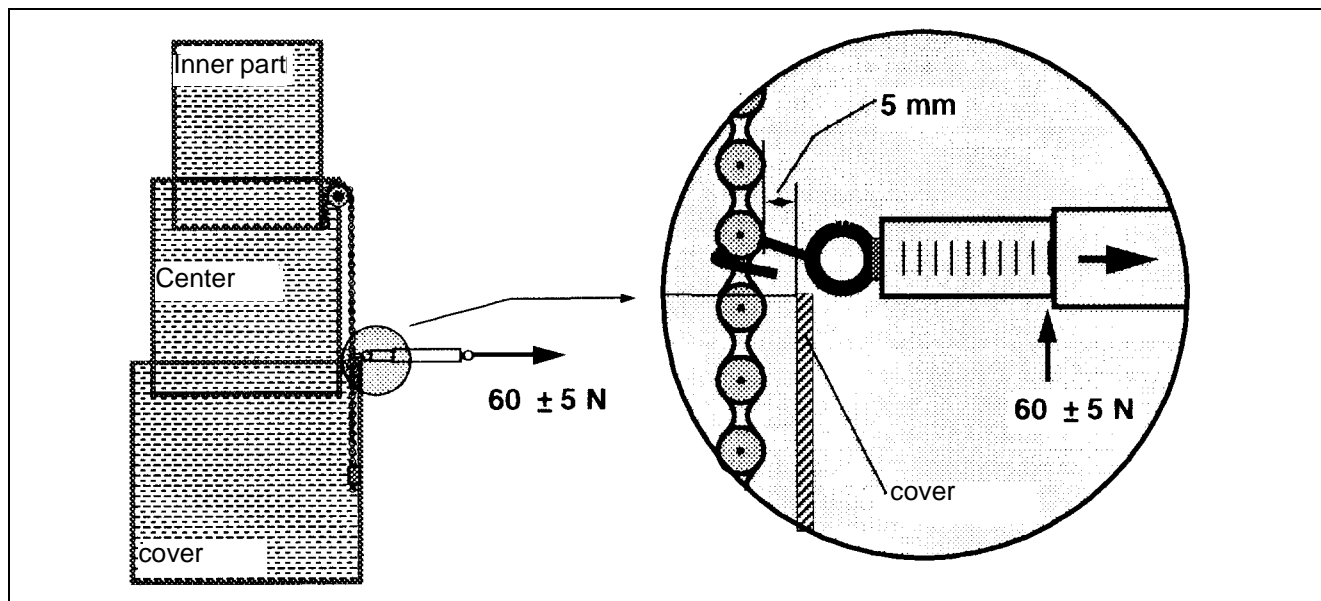

Fig. 5
- Pull the lifting drive chain with the spring scale approx. 5mm toward the cover (Fig. 5). When the lifting drive chain defelects 5mm, you must read 60 ± 5 N.